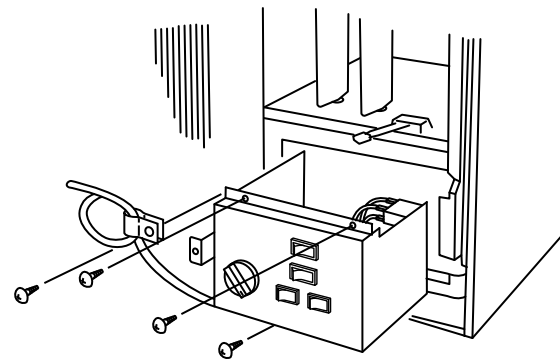

Fig. 6
- (2) Remove screws securing the electrical component box. (Fig. 6)